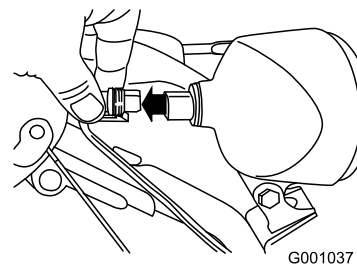

Figure 57
1. Remove the wire connector from the back of the headlight (Figure 57).